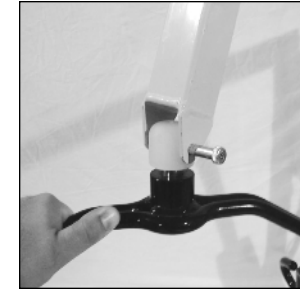

Figure 10
1. Remove existing cradle and bolt assembly. Discard old bolt and use the new one provided with scale (Figure 10).